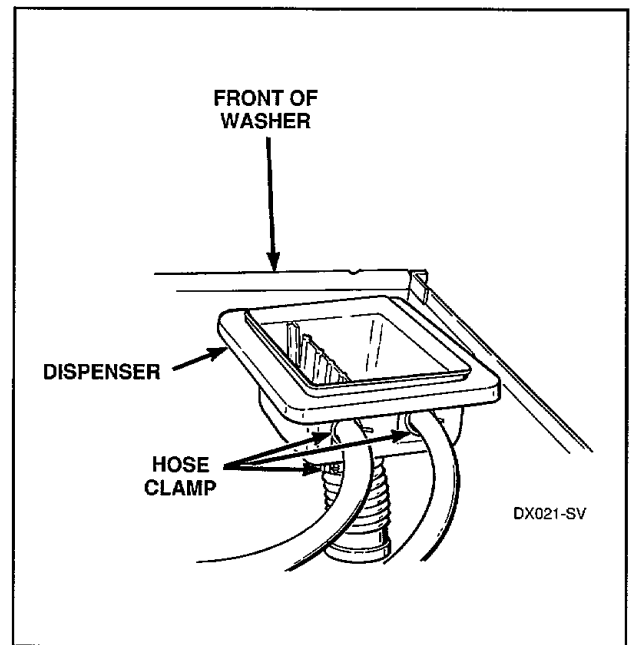

Figure 15
- c. Loosen hose clamps and remove hoses from nozzles on dispenser, *Figure 15*.
- d. Loosen hose clamp and remove hose from underside of dispenser and remove dispenser, *Figure 15*.
- h. Loosen hose clamp and remove dispenser hose where it attaches to the inlet on the outer tub, *Figure 15*.